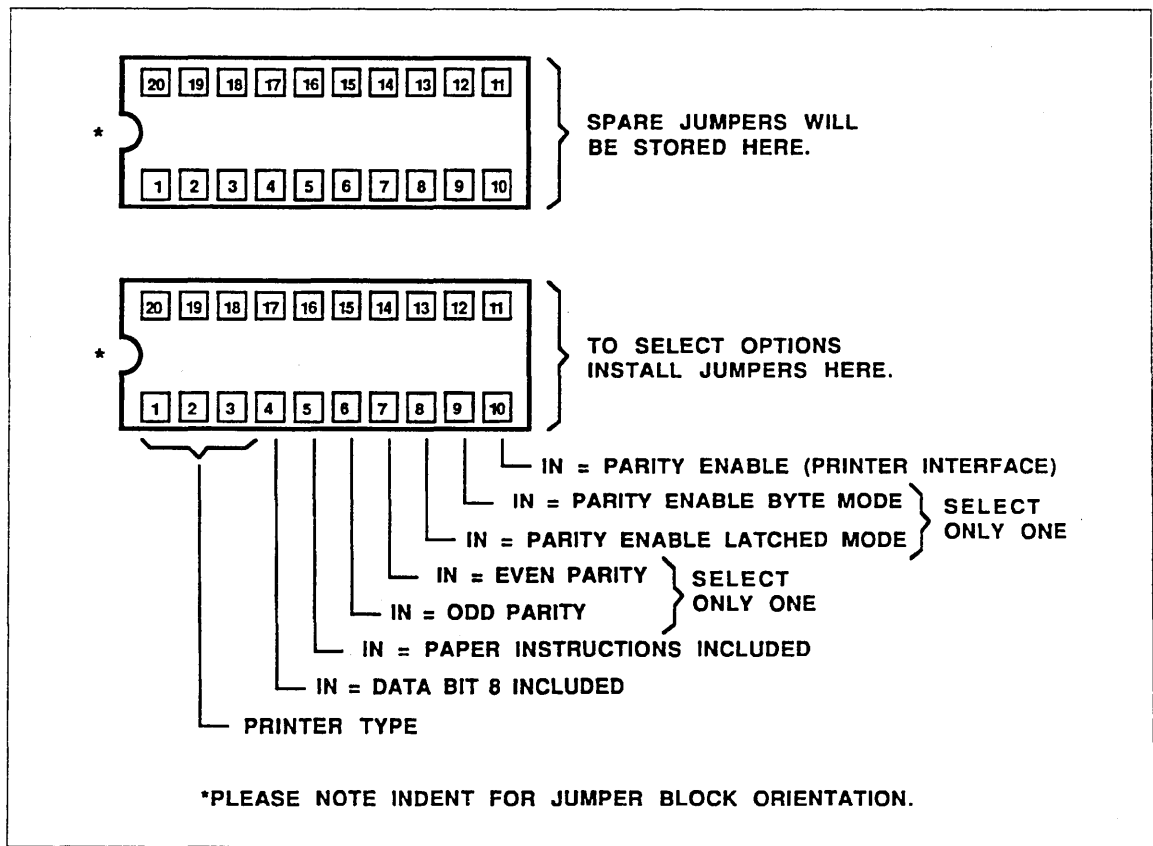

Figure 1-33. URI Board Jumper Selection
4. Use a needle-nose pliers or similar tool to install jumpers in socket 46E0. The URI can be configured to interface to eight different printer types by properly installing the three jumpers. The following table lists the pin assignments and their meanings. NO is a logical 1 and is not strapped (open); YES is a logical 0 and is strapped (closed). Refer to figure 1-33.